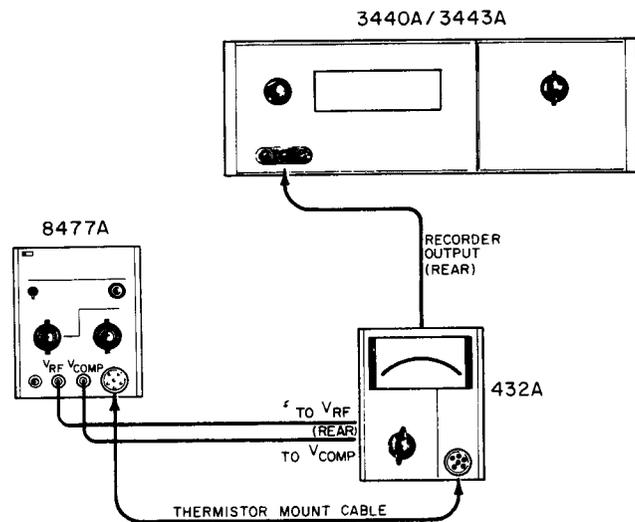

Figure 5-1. Check and Adjustment Test Set-Up
a. Connect the 8477A outputs to the 432A inputs as shown in Figure 5-1. Use appropriate test equipment as listed in Table 5-1.